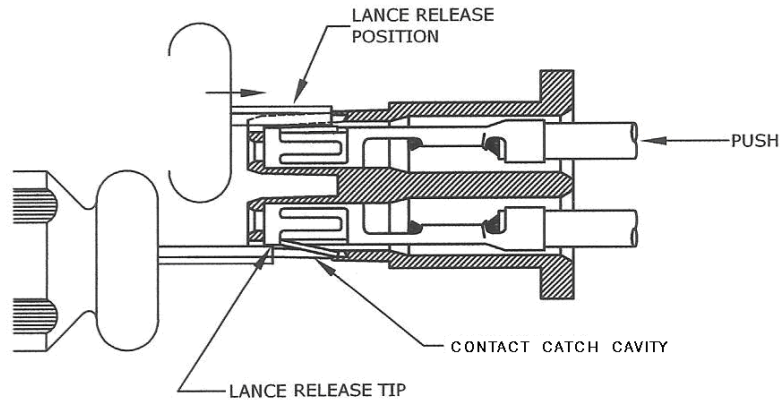

Figure 2
The MiniMate® contact has a locking lance that can be released through a contact catch cavity located in the front of the housing as shown in **Figure 2**. The contact extraction tool has a protrusion that is inserted into the contact catch cavity to depress the locking lance the correct amount for contact removal.
2. Engage the lance release tip of the contact extraction tool in the contact catch cavity as shown in **Figure 2**. With downward pressure, push the contact extraction tool toward the back of the contact catch cavity to release the locking lance.